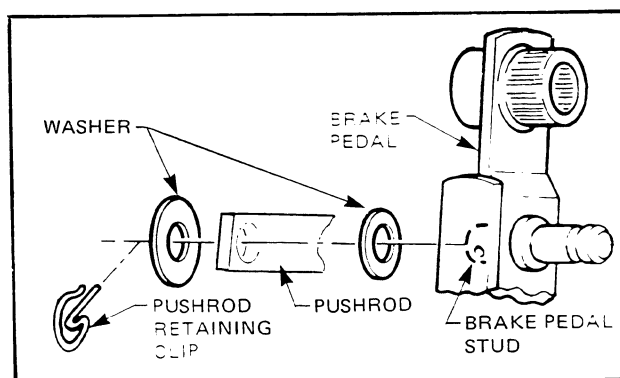

Figure 5-5
8. Remove brake push rod retaining clip and washer from brake pedal and lift push rod off brake pedal stud. (Refer Fig. 5-5)